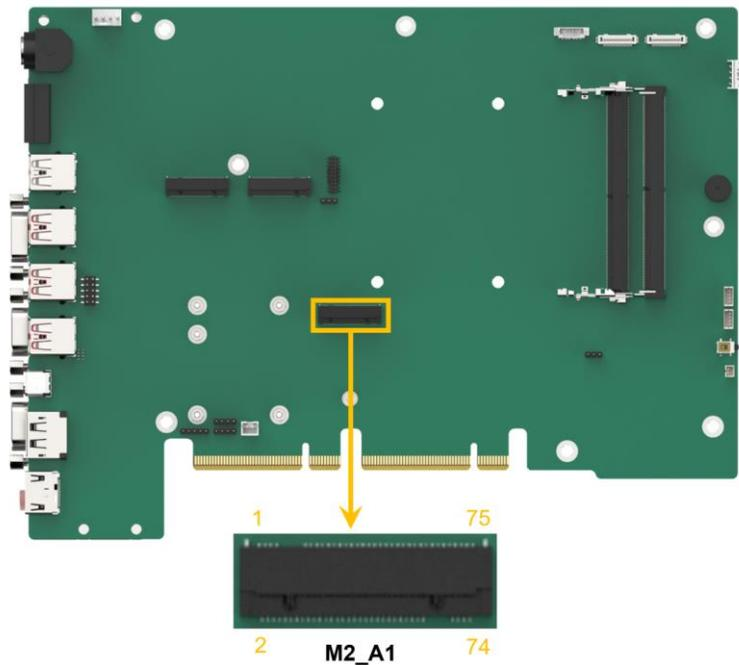

Figure 4-16: M.2 A-key Slot Location
- CN Location:** See **Figure 4-16**